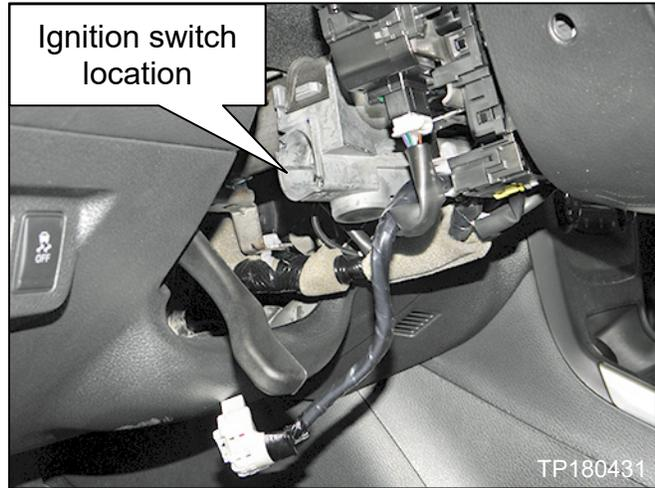

Figure 39
- Figure 39 shows ignition switch already removed.